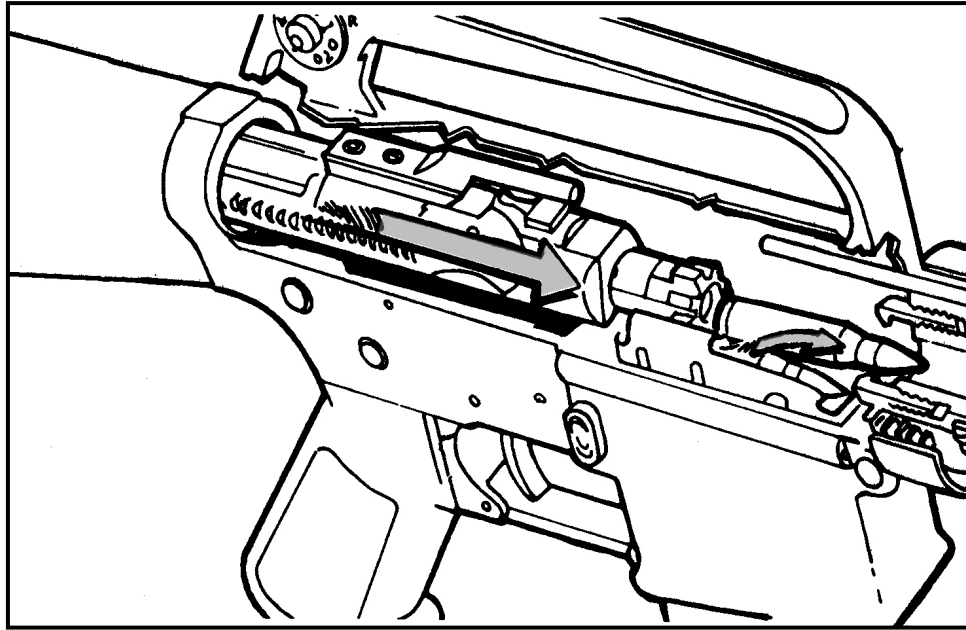

Figure 4-3. Feeding.
- a. **Feeding** (Figure 4-3, page 4-4). As the bolt carrier group moves rearward, it engages the buffer assembly and compresses the action spring into the lower receiver extension. When the bolt carrier group clears the top of the magazine, the expansion of the magazine spring forces the follower and a new round up into the path of the forward movement of the bolt. The expansion of the action spring sends the buffer assembly and bolt carrier group forward with enough force to strip a new round from the magazine.